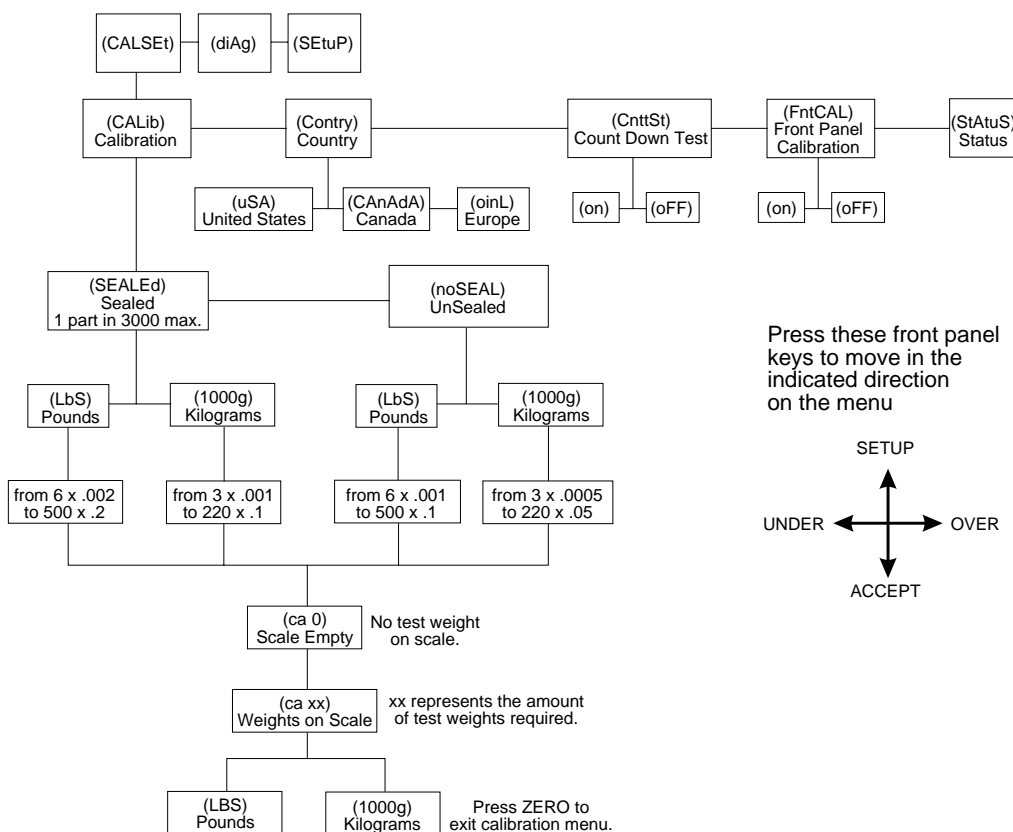

Figure 3
Access the menu structure using one of the methods described on pages 1 and 2 of this manual. Follow the calibration menu in Figure 3 and these procedures to calibrate your system and select proper values for your locale.
1. With "**CALSet**" displayed, press the **ACCEPT** key. . . "CALib" will be displayed. Figure 3 shows the calibration submenu.